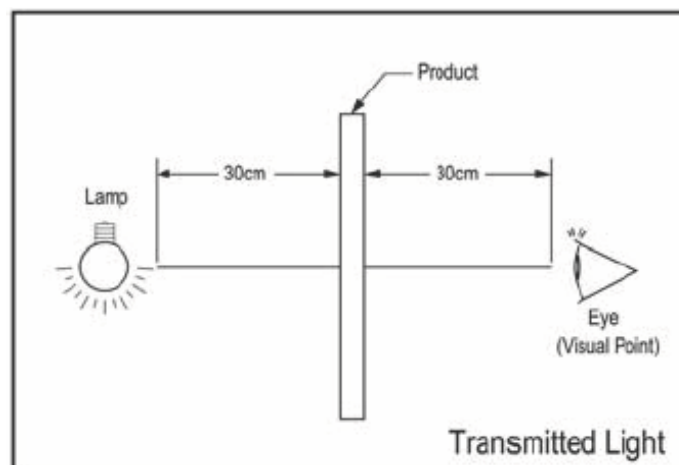

figure 13.1
3. Lighting illumination: 17W fluorescent luminant lamp is used for appearance inspection. Detail of settings is shown in **figure 13.1 & 13.2**.